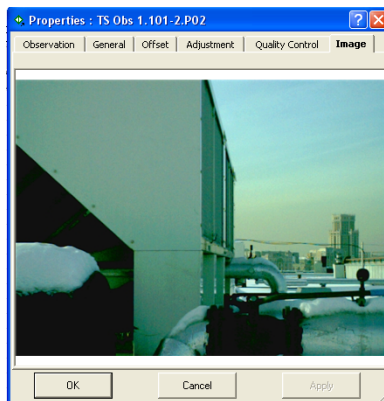

Figure 5-114. Image Properties
7. The *Image* tab displays the image(s) for the selected TS observation (Figure 5-114)